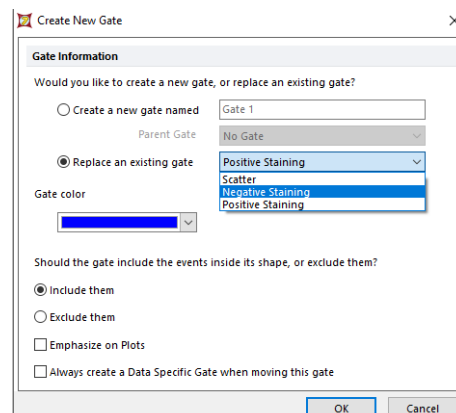

Figure 8 – Replacing Negative and Positive Staining gates.
11.) Repeat step 8 to view, replace, and adjust the “**Negative Staining**” and “**Positive Staining**” gates that are set up by default in the layout using the top plot from the middle column in the layout (*Figure 2 - Plot 2 and Figure 8*). Do not use the right column of plots which is reserved for 84th percentile calculations.